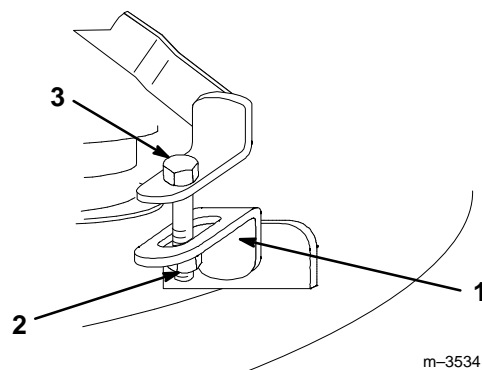

Figure 14
6. To adjust front-to rear blade level loosen jam nut on front adjustable link. (Fig. 14).
7. Rotate the bolt on front adjustable link to change front-to rear blade level (Fig. 14).